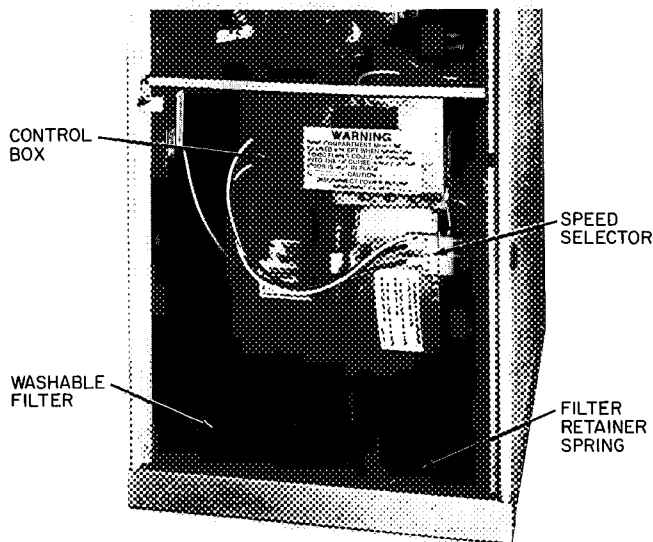

Fig. 7 — Filter Installed for Bottom Inlet
FILTER ARRANGEMENT — Filter is supplied in furnace blower compartment. For bottom inlet application, filter should be installed as shown in Fig. 7.
To change motor speed taps, remove motor tap lead (Fig. 7, Table 3) and relocate it on desired terminal on plug-in terminal block/speed selector located on blower.
3. Remove electrical leads from numbered side of blower speed selector (Fig. 7, Table 3). Note location of wires to aid reassembly.